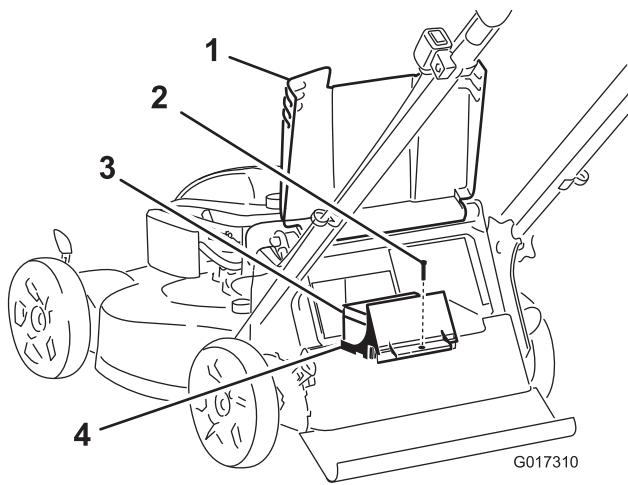

Figure 26
1. Raise the rear deflector and locate the battery compartment (Figure 26).